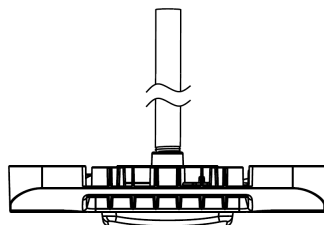

FIGURE 5
- Connect the wires as shown (Fig. 1) and then secure fixture to the ceiling with the 3/4" NPT Pendant (Fig. 5).